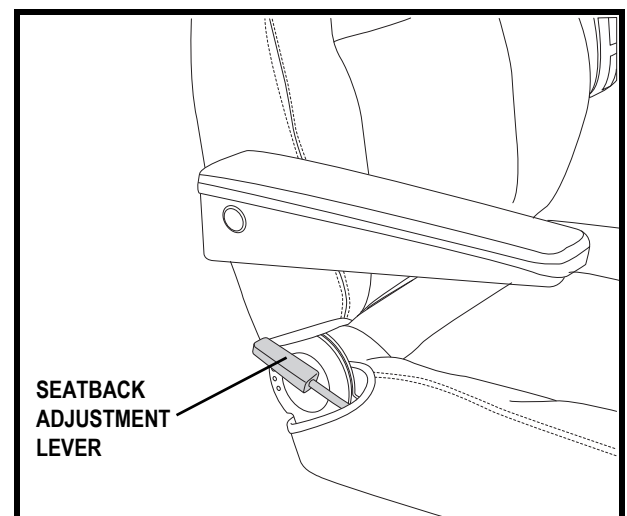

Figure 16. Seatback Angle Adjustment
1. With your back pressed up against the seatback, lift up on the seatback adjustment lever (see figure 16) and lean forward or rearward to adjust the seatback angle.